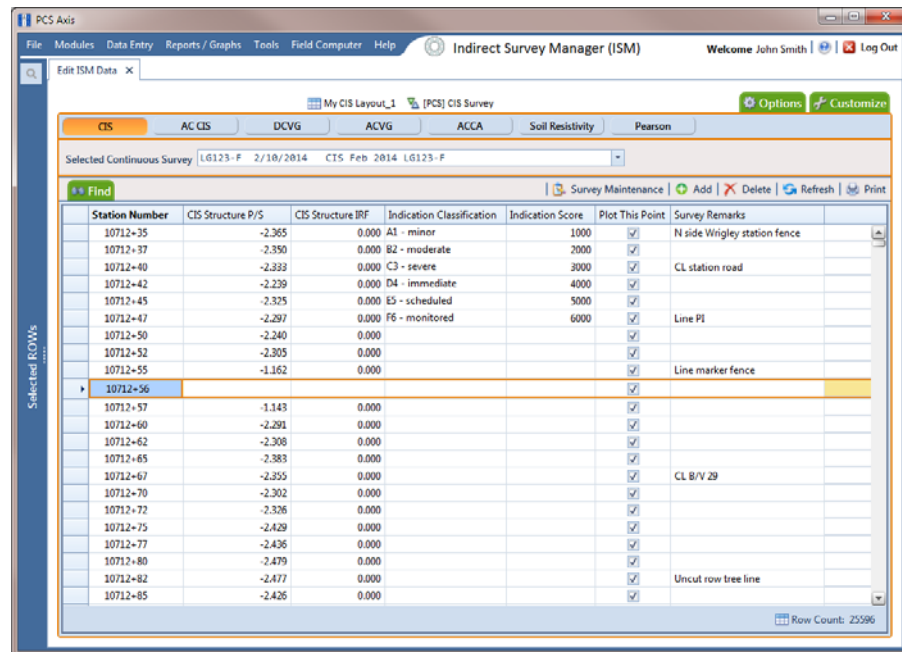

Figure 7-60. Edit ISM Data
- c Click **Save** to add the record in the grid. For example, a record for station number 10712+56 has been added in the next figure (Figure 7-60).